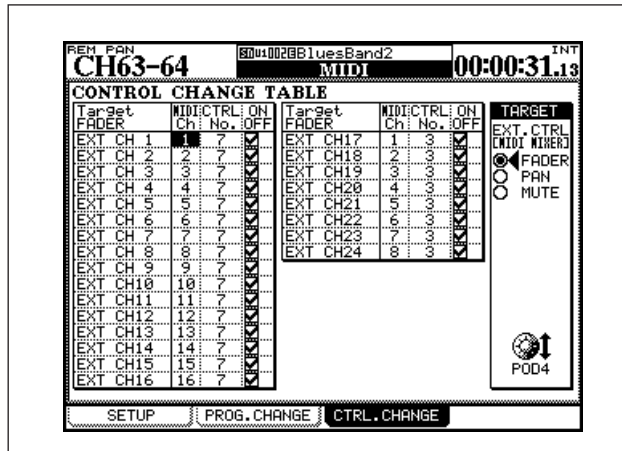

Figure 8.7: MIDI control change screen
- 2 Use the mixer using the MIDI CTRL.CHANGE setup screen (below at Figure 8.7, *MIDI control change screen*):